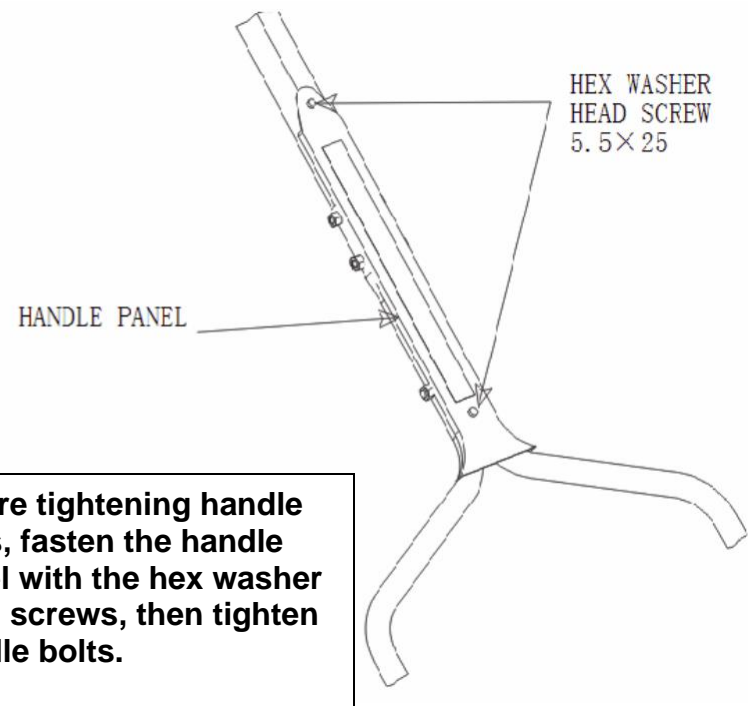

FIGURE 5
7. Place the handle panel (Part 2) in position over the handle (Figure 5).